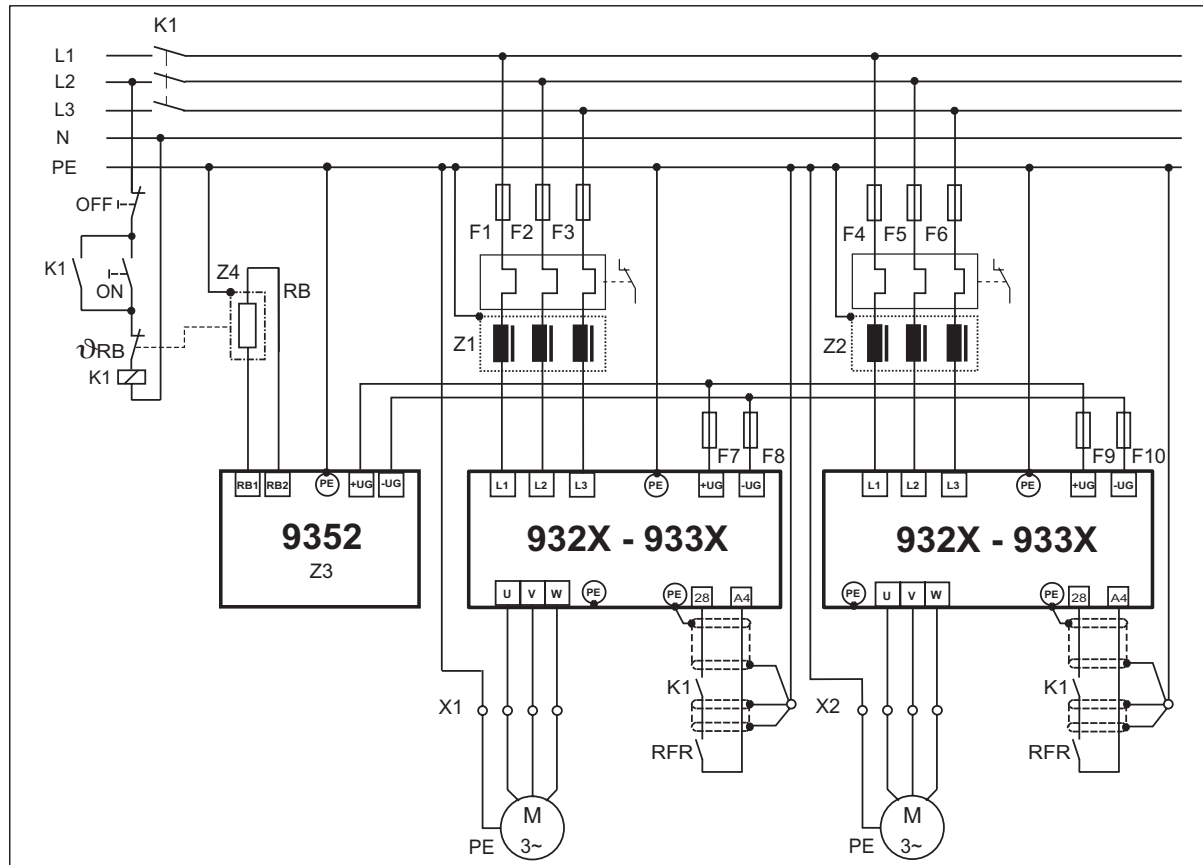

Fig. 4-9 Decentralized supply with DC-bus connection of several drives
- Fig. 4-9, “Decentralized supply for DC-bus connection of several drives”. (📖 4-18)